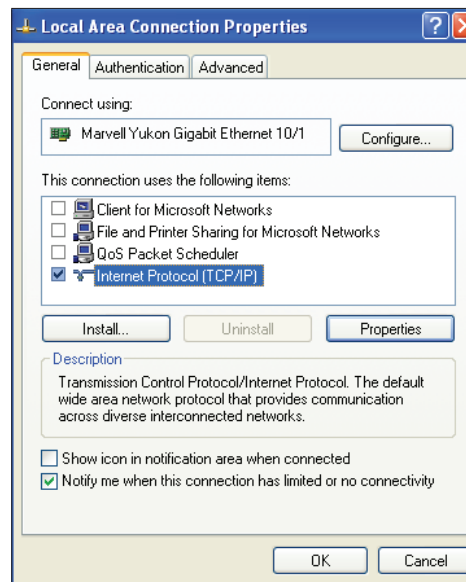

Figure 7: Local Area Connection Properties Window
- 5.) As shown in Figure 7, in the Connection Items list box, be sure the **Internet Protocol (TCP/IP)** is checked. Select the **Internet Protocol (TCP/IP)** item to highlight it and then click **<Properties>**. The *Internet Protocol Properties Window* will appear.